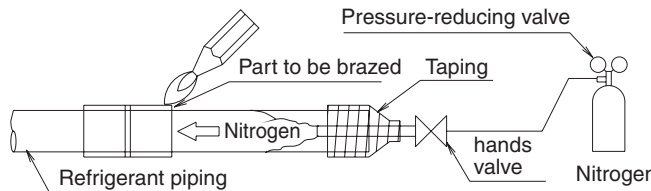

Fig. 14
- When brazing the refrigerant piping, perform nitrogen replacement first, or perform the brazing (note 2) while feeding nitrogen into the refrigerant piping (note 1), and finally connect the indoor unit using the flare connections. (Refer to Fig. 14)